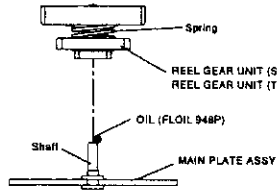

Fig. 2-22-2
- 1 Apply OIL (FLOIL 948P) [859D154020] to the shaft shown in Fig. 2-22-2 in which the REEL GEAR UNIT (SP) of the ASSY MAIN PLATE IS to enter.
- 2 Install the REEL GEAR UNIT (SP) shown in Fig. 2-22-2.
- Note:** Make sure the colour of the spring according to the table in Fig. 2-22-2 in installing the REEL GEAR UNIT (SP).
- 3 Apply OIL (FLOIL 948P) [859D154020] to the shaft shown in Fig. 2-22-2 in which the REEL GEAR UNIT (TU) of the MAIN PLATE ASSY is to enter.
- Note:** Make sure the colour of the spring according to the table in Fig. 2-22-2 in installing the REEL GEAR UNIT (TU).